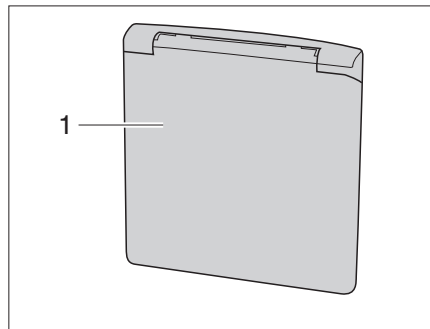

Fig. 8 Flap for 230 V connection
- Opening:** ■ Grip the external flap (Fig. 8,1) at the bottom and lift it upwards.